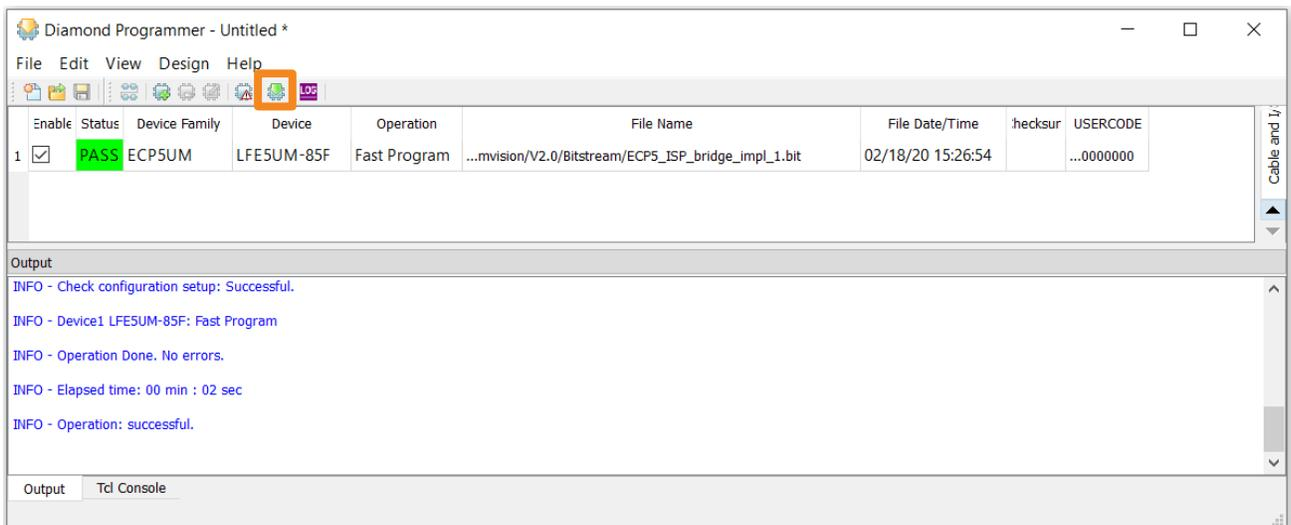

Figure 5.6. ECP5 Board Programming Status and Result
- Click the Program icon  from the toolbar, or choose the **Design > Program** menu item from Diamond Programmer, to program the ECP5 board. Check the programming status and result (Figure 5.6).